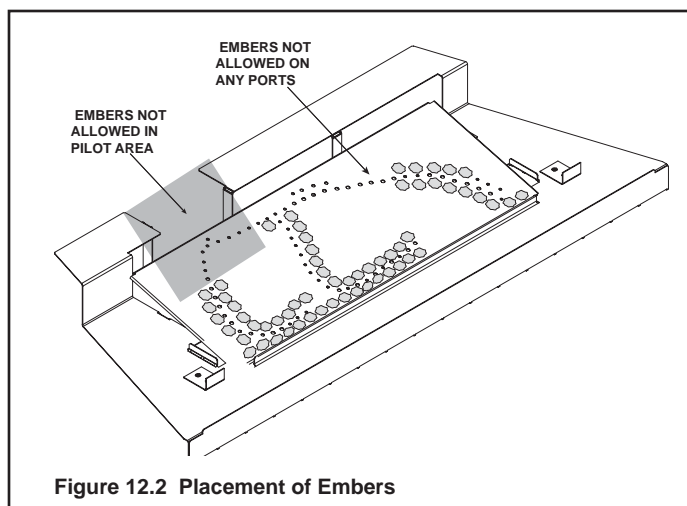

Figure 12.2 Placement of Embers
- Place 1cm-size pieces of Glowing Embers® just in front of the port trail, but not on or in between the ports (see Figure 12.2). Care should be taken so that the ports are not covered. Failure to follow this procedure will likely cause lighting and sooting problems.